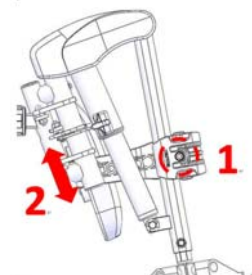

Figure 5-24
- Use the #5 Allen Key Wrench to loosen the screw and adjust the calf support to accommodate the user's leg position and flexibility. (Figure 5-24) Re-tighten the screws.